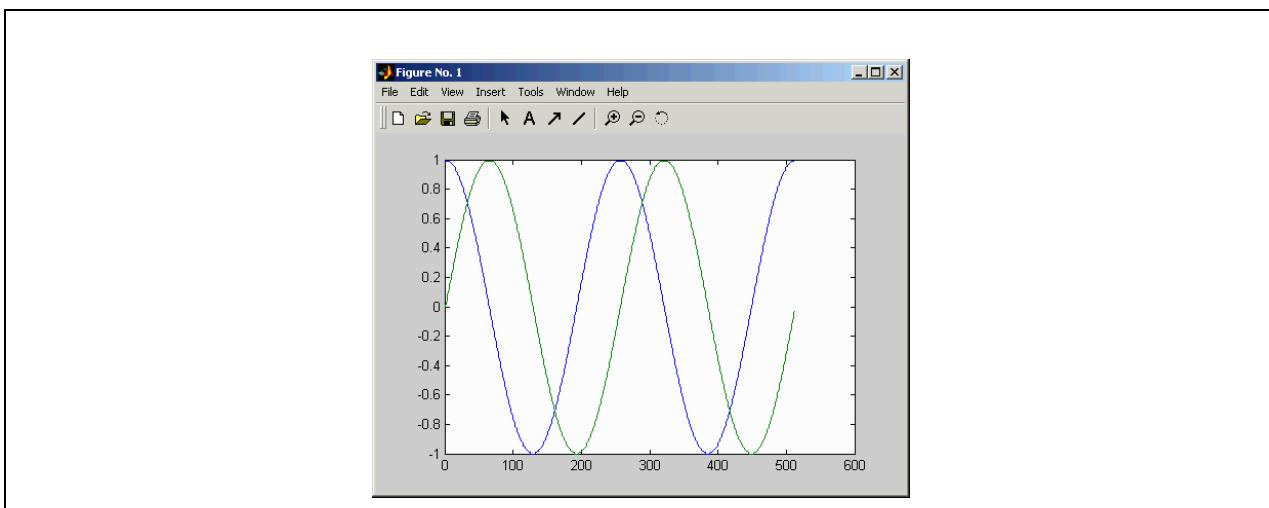

Figure 149: Plotted Data in MATLAB
3. The values can be plotted using the MATLAB plot function. Type: `plot(1:512, data0, 1:512, data1)` which gives the plot shown in Figure 149 on page 220.